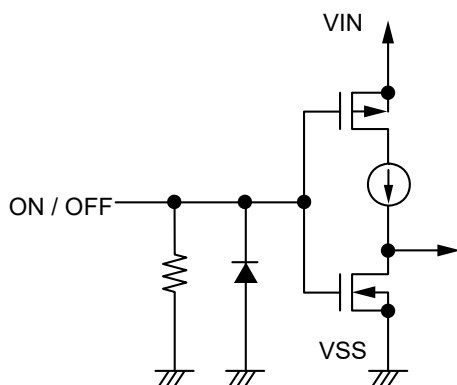
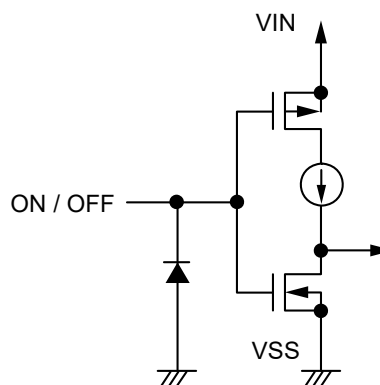

Figure 27 S-1335 Series A / C / E / G / J / L type
Figure 28 S-1335 Series B / D / F / H / K / M type
The ON / OFF pin is configured as shown in **Figure 27** and **Figure 28**.
*1. Note that the IC's current consumption increases as much as current flows into the pull-down resistor of 2.2 M Ω typ. when the ON / OFF pin is connected to the VIN pin and the S-1335 Series A / C / E / G / J / L type is operating (refer to **Figure 27**).